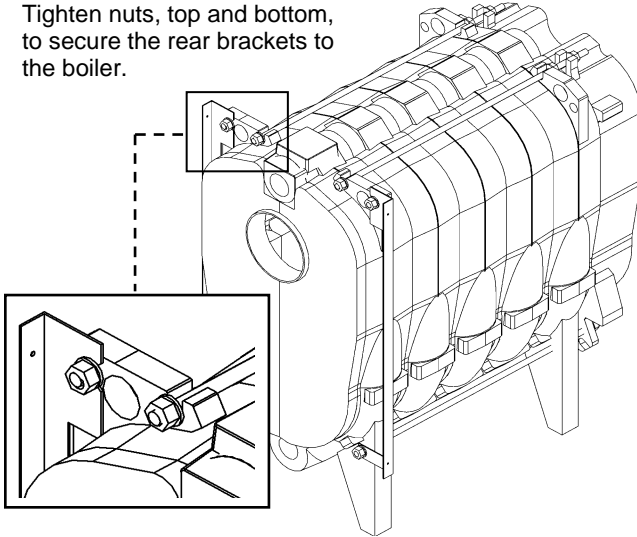

Figure 4-4 Front Brackets
4. Install front brackets on the boiler, secure by tightening nuts (Figures 4-4 to 4-6).